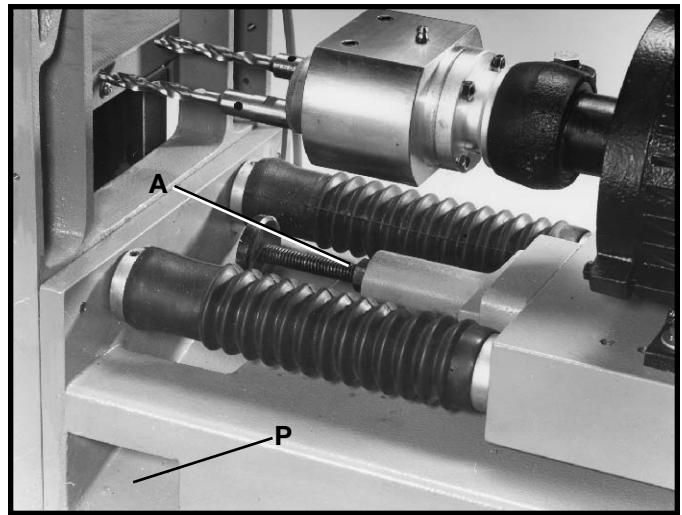

Fig. 18
The machine features a handy built-in dust chute (P) Fig. 18, which allows wood chips to fall out of the way and keeps the depth stop clear for accurate repetitive boring operations.
2. Loosen locknut (A) Fig. 18.